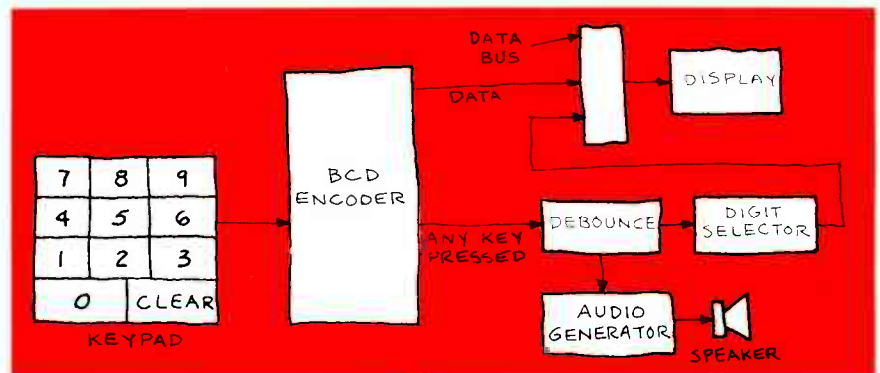

FIG. 1
- Once the criteria have been set, the next thing we need is a block diagram that breaks the circuit into separate sections that can be designed individually. Figure 1 is a block diagram of the circuit that was described by our criteria. In order to meet criterion number 8, we'll use CMOS